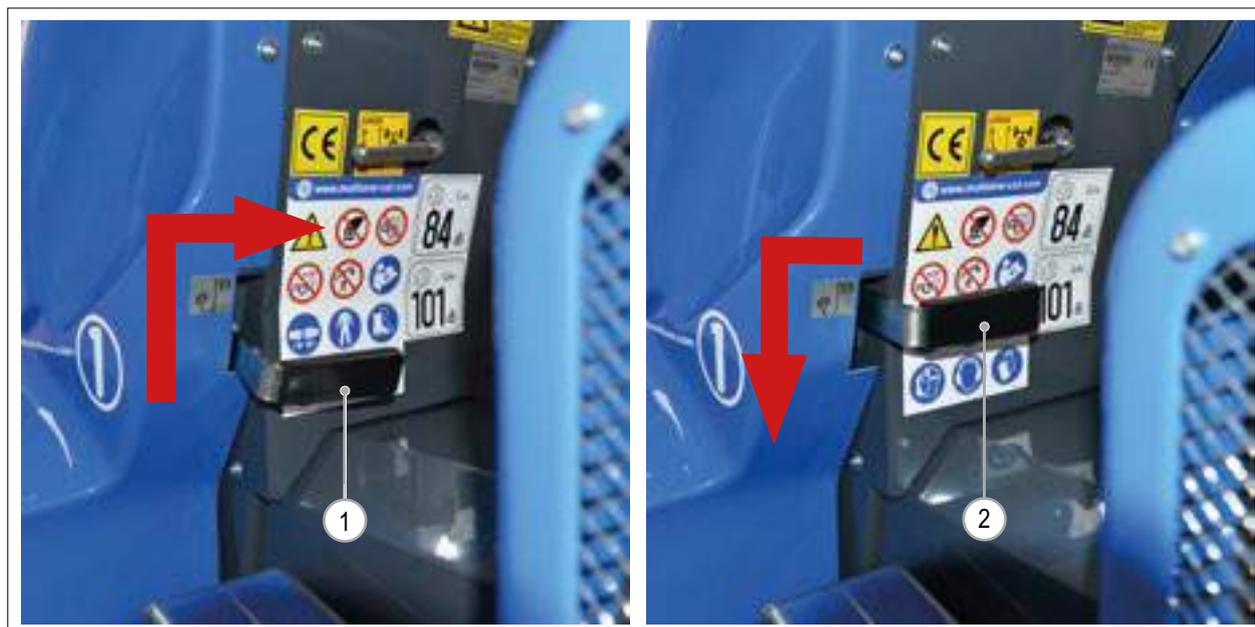

FIG. 14
- 1) Pull the parking brake lever (FIG. 14 - Rif. 1) upward and lock it by pushing it to the right.
- 1) Unlock the parking brake lever (FIG. 14 - Rif. 2) by moving it to the left and down.